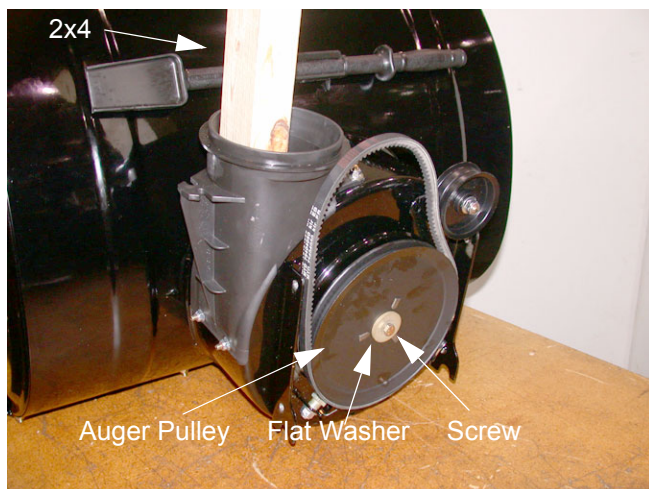

Figure 45
- 16.2. Wedge a 2x4 between the spiral assembly and the auger housing to hold it in place. See Figure 45.